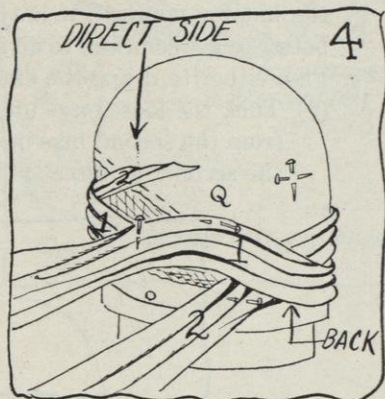

FIG. 4.
- b. Put one pin at direct front, left, and right sides of tip (see Figure 1 C) and two pins at right angles to each other at direct back of tip (see Figure 4, page 241). This will help you to drape the turban more easily.
- j. **Turn the block so that you will be looking at the back** (see Figure 4).
- k. Cross the first folded bias over the second at direct back, so that the first one slants diagonally upward from your right, and across the back, and pin directly over the point where you started the first strip (see Figure 4). If you look carefully under the first bias, you still see that the second one slants diagonally downward at the back of the hat (see Figure 4).
- l. Go back and pin this section of the drape to the foundation so that the top folded edge of the first bias will lap over the raw edge of the tip across your left side front (see point *Q* in Figure 4) and so that the lower folded edge of the second bias will come to the edge of the foundation at the direct back of the hat (see Figure 4).
- m. Lay this first bias into folds so that the end and the beginning seem to fold into each other and pin in place at your direct left side (see Figure 4).
- Use a whalebone pusher to loosen the foundation, for it is likely to stick to the block (see Job 39, Sections 6 *d* and 7 and Figure 4 *B* in that Job, page 156).